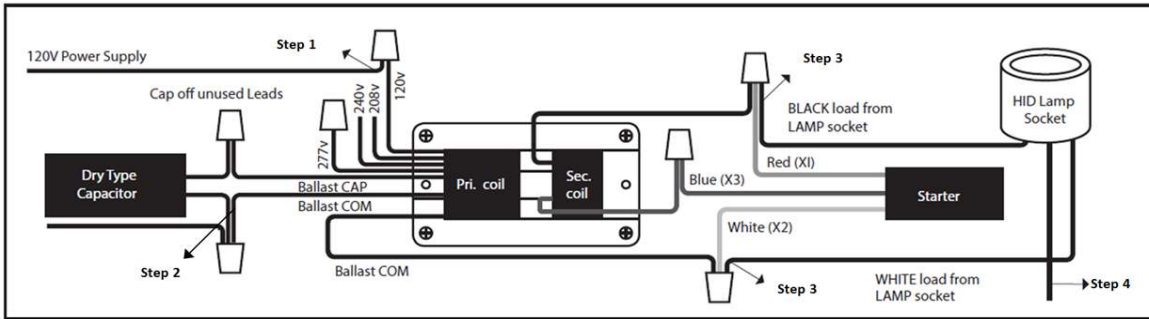

Figure 1: Bypassing the magnetic ballasts; follow steps 1 through 4 in the instructions above to bypass the HID ballast.
3. Follow the steps below to bypass the existing HID ballasts (See Figure 1).
- Step 1: Disconnect Line Voltage (Hot Wire) from the HID ballast as shown in Figure 1.